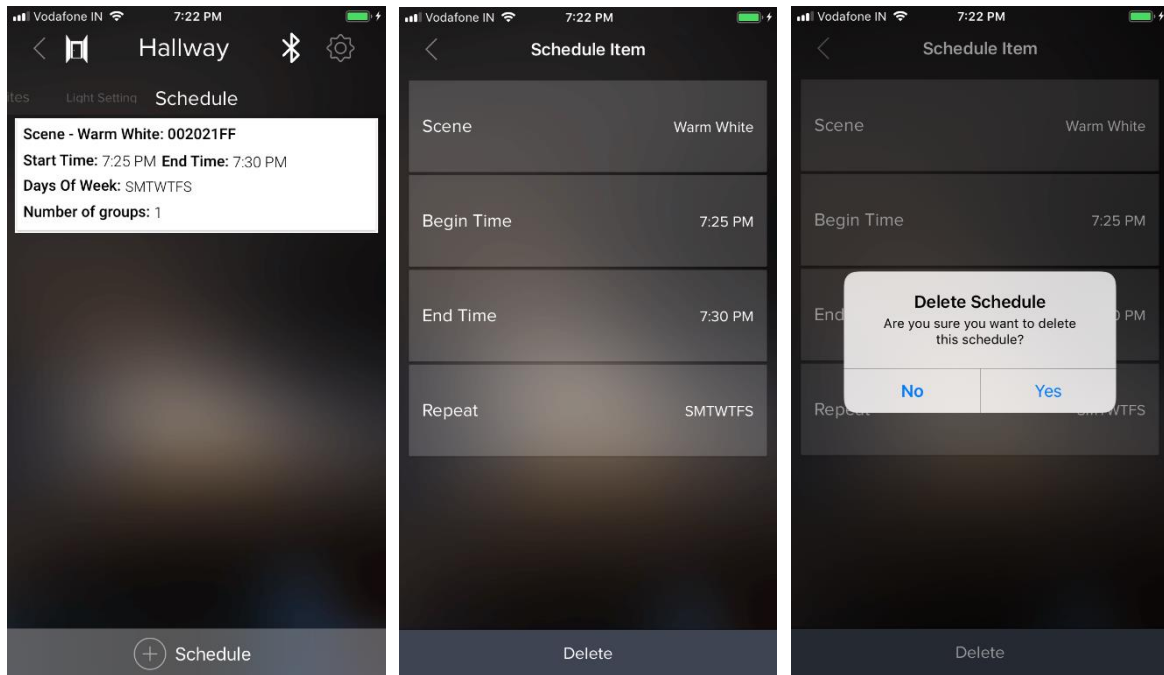

Figure 5-18 Delete Schedule
5.4.2 To delete a Schedule, go to the Schedule screen. Schedule screen would show all the user created schedule, click on the schedule you want to delete and then click on the “Delete” button present at the bottom of the screen as shown in Figure 5-18.